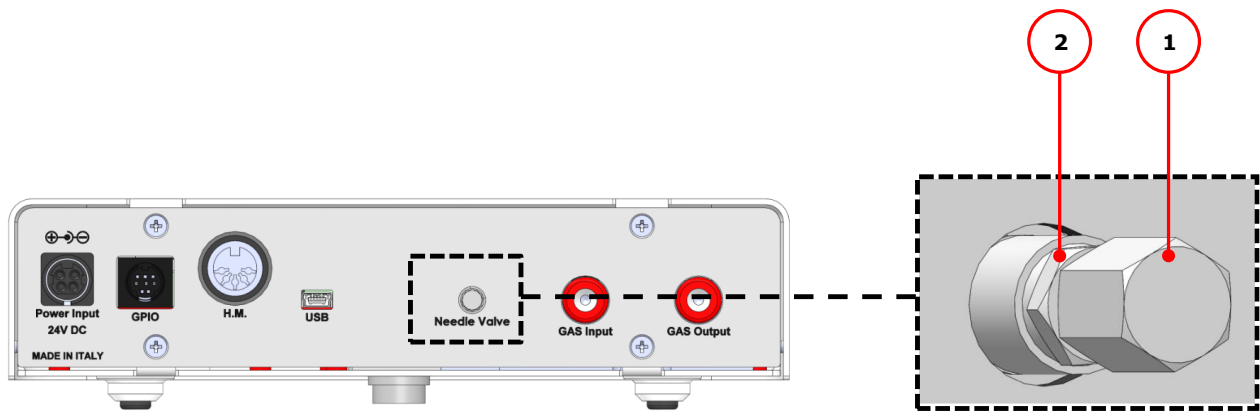

Figure 15. Needle valve regulation.
13. Regulate manually the Flow rate using the needle valve on the rear panel of HM-ACTIVE-STANDALONE. Turn the needle valve knob (1 in Figure 15) counterclockwise to increase the Flow rate. Set the Flow rate to the desired value. Then, rotate the O-ring (2 in Figure 15) clockwise until it stops in order to lock the needle valve.